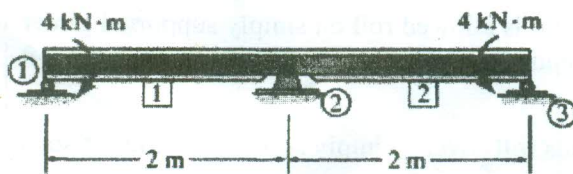

Fig.3
15. a) For the continuous beam shown in Fig.3 write member stiffness matrix for element 1. Take EI as constant. 3 2 5 2